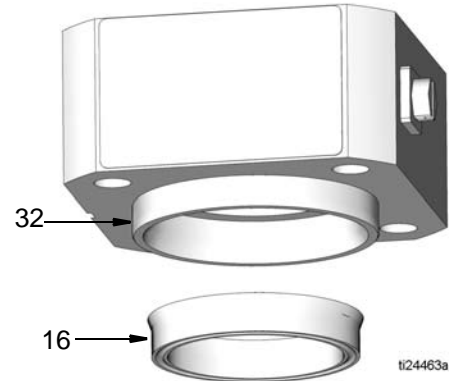
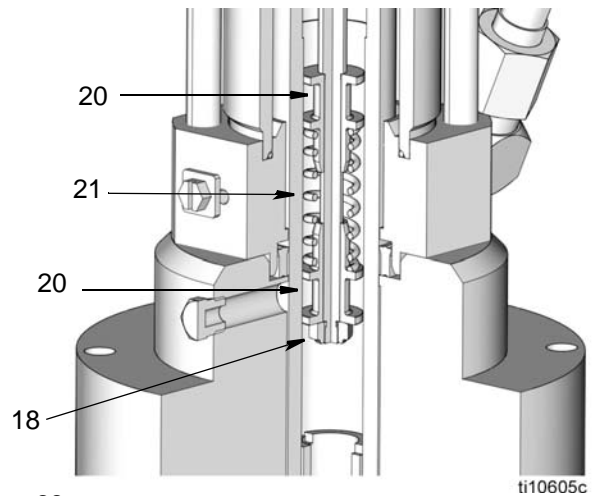
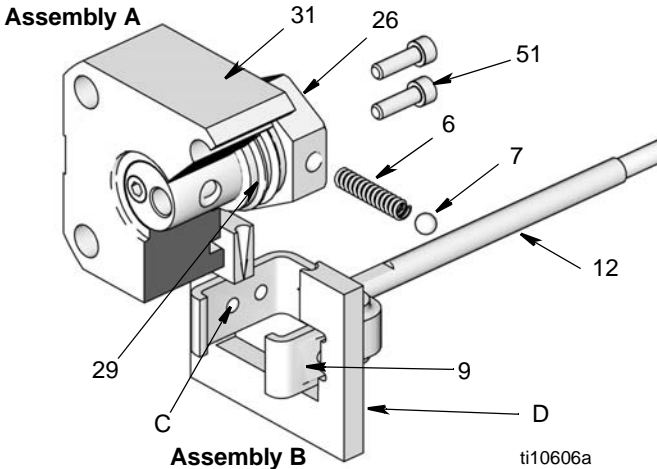

FIG. 13
FIG. 23
FIG. 24
1. Install seal (16) in bottom of cylinder cap (32) in the orientation shown in FIG. 13.
2. Reassemble cylinder cap (32) to motor housing (43). Install lock washers (52) and cap screws (46) (FIG. 13). Torque the capscrews to 28-32 ft-lb (38 to 43 N.m).
- Use a 1/4-28 UNF-2A tap to remove adhesive from internal threads of yoke (9).
1. If needed, install a new spring over trip rod as follows (FIG. 23):
- one retainer (20),
- new spring (21),
- second retainer (20).
2. Thread nut (18) onto rod until it runs out of thread so that it bottoms out on the rod's shoulder (FIG. 23).
3. If valve yoke (9) was removed from trip rod (12) during the disassembly procedure, apply Loctite® 609 thread sealant to first two or three internal threads of yolk (9).
4. Apply Primer to external threads of trip rod (12). Allow Primer 3-4 minutes to dry. Install trip rod to yoke (9). Torque to 54-56 in.-lbs (6.1 to 6.3 N.m). Remove excess sealant.
5. Apply Loctite® 242 or Perma-Loc 115 thread sealant to first two to three threads of valve assembly (31).
6. If capscrews (51) were removed during the disassembly procedure, apply thread sealant to the first two or three internal threads of valve stop (26) (FIG. 24, page 18).
7. Apply Primer to external threads of valve sleeve (29). Allow Primer 3-4 minutes to dry. Install cap screws (51). Torque to 42-45 in.-lbs (4 to 5 N.m). Remove excess sealant.
8. Remove o-ring (13) from bottom of cylinder cap (31) and replace it with a new o-ring.
9. Use a spanner wrench to screw piston (22) onto displacement rod (34). Torque to 40 to 48 ft-lb (54 to 65 N.m).
10. Lay Assemblies A and B (FIG. 24) on work bench.
11. Slide Assembly B in into center of tool (D), Part No. 189305. Align upper detent holes (C) of yoke (9) with center line of tool (D) (FIG. 24).
12. Insert spring (6) and one ball (7) into valve stop (26) of Assembly A. Tilt valve stop and start guiding it into tool (D), making sure ball is sliding into rounded slot in tool (D). Place other ball at the other end of spring and push it in with your thumb while rotating valve stop (26) until spring is horizontal and balls are in place. Continue holding this assembly together (FIG. 24).
13. Slide valve stop assembly down into tool. Make sure balls (7) snap into upper set of holes (C) in yoke (9) and curved ends of guide clamp have engaged valve sleeve (29) groove. Slide tool (D) back over rod (12) to remove it (FIG. 24).
14. Place adapter (43) in a vise. Install seals as described in Replacing Throat Seal Reassembly instructions, page 13.
15. Reassemble cylinder cap (32) to motor housing (43). Install lock washers (52) and cap screws (46) (FIG. 13). Torque the capscrews to 28-32 ft-lb (38 to 43 N.m).